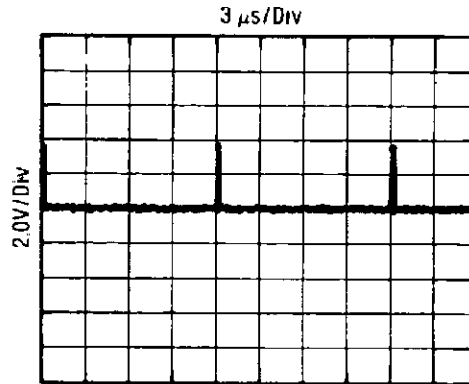

Figure 8-29. A2A5TP3, A2A3 Test Switch HIGH
- Press **RCL** and **0** and connect the oscilloscope to A2A5TP3. The waveform should be as shown in figure 8-29.